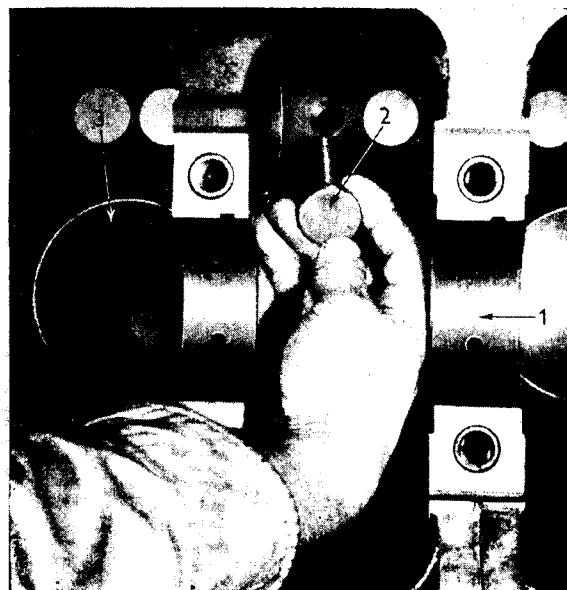

Fig. J.10. Removing Tappets.
1. Refit the tappets (Fig. J.10).